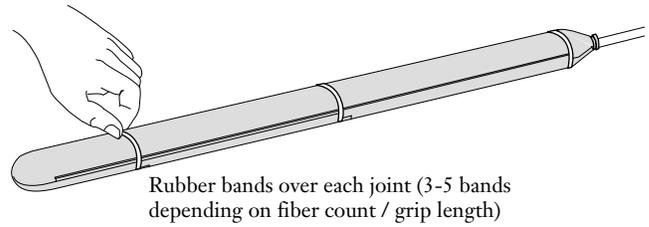

Figure 23
6.10 Carefully close the grip, making sure that none of the bags are pinched by the grip halves. Starting at the cable end of the grip, slide a rubber band over each of the joints between the grip sections (Figure 23).